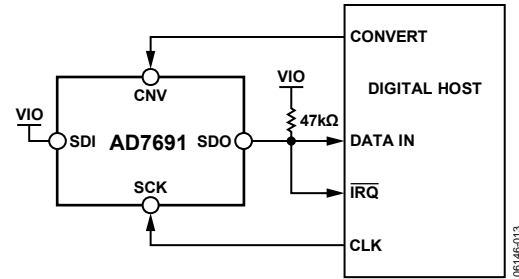
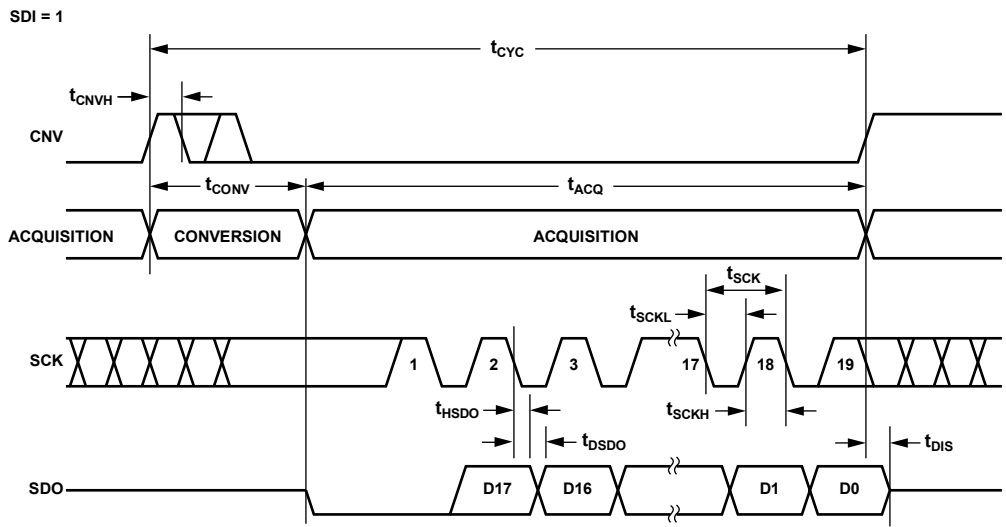
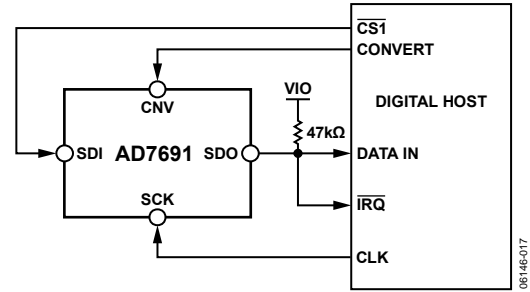
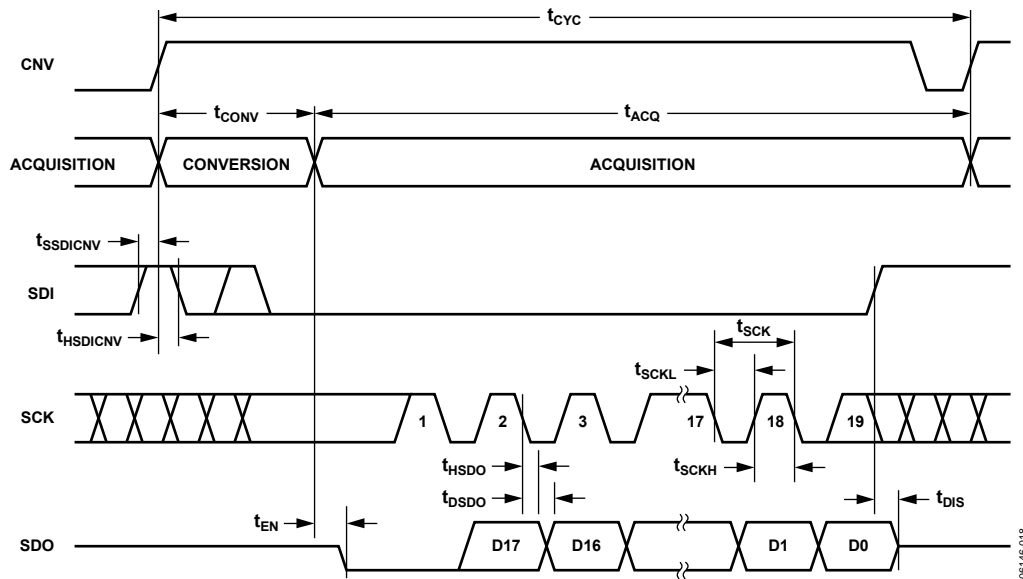

Figure 37. 3-Wire \overline{CS} Mode with Busy Indicator Connection Diagram (SDI High)
Figure 38. 3-Wire \overline{CS} Mode with Busy Indicator Serial Interface Timing (SDI High)
Figure 41. 4-Wire \overline{CS} Mode with Busy Indicator Connection Diagram
Figure 42. 4-Wire \overline{CS} Mode with Busy Indicator Serial Interface Timing
- In the $\overline{\text{CS}}$ mode if CNV or SDI is low when the ADC conversion ends (see Figure 38 and Figure 42).
The connection diagram is shown in Figure 37, and the corresponding timing is given in Figure 38.
The connection diagram is shown in Figure 41, and the corresponding timing is given in Figure 42.